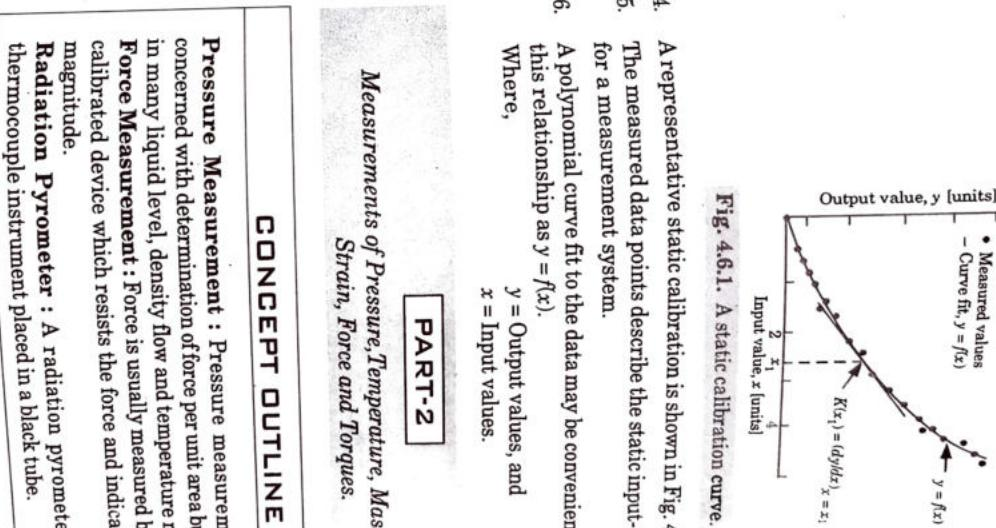

Fig. 4.6.1. A static calibration curve.
4. A representative static calibration is shown in Fig. 4.6.1.